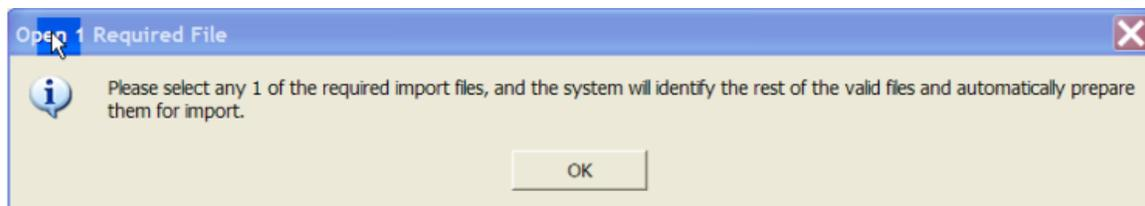

Figure 67. Required File
- (3). Use the pull down to select the drive the file will go to, press browse and the following screen will appear (Figure 67).